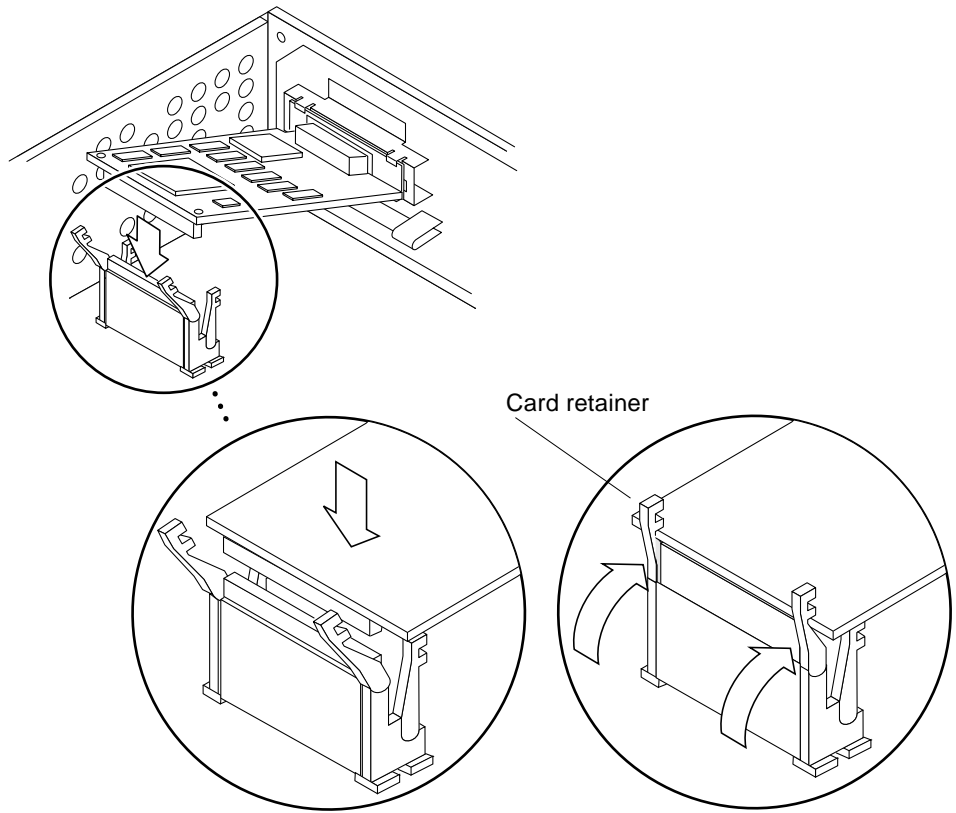
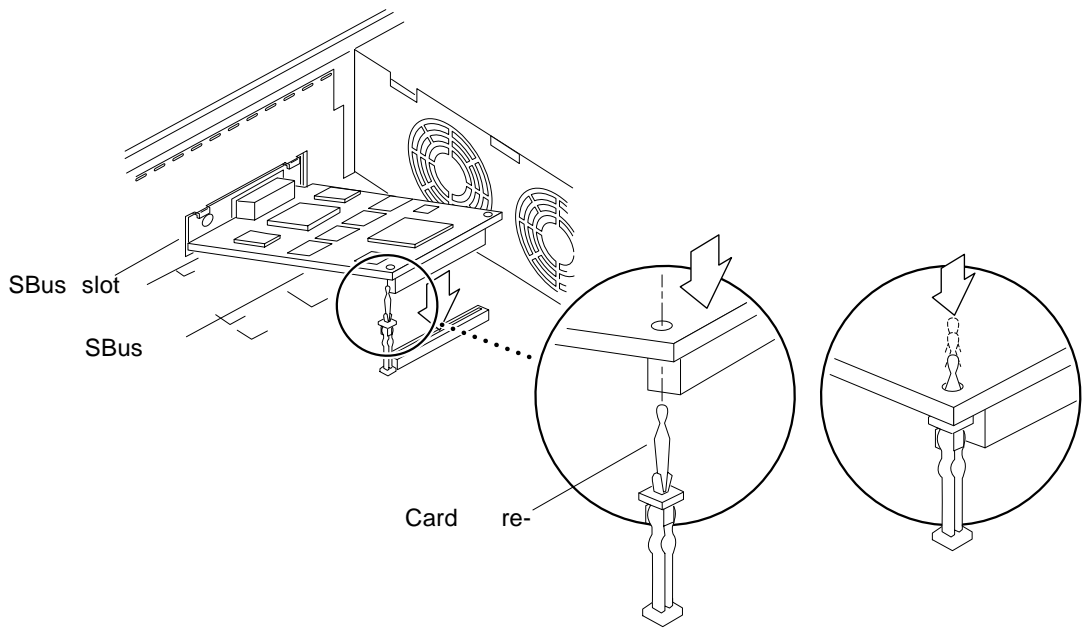

FIGURE 10-15 Lock in the SBus Card Retainers, SBus Slots 0 or 1
FIGURE 10-16 Lock in the SBus Card Retainer, SBus Slot 2
Do not force the card, or you may damage the pins on the card. If the SBus card is located in SBus slot 0 or 1, see FIGURE 10-15. If the SBus card is located in SBus slot 2, see FIGURE 10-16.
- If the SBus card is located in SBus slot 0 or 1, push the rear card retainers forward over the edge of the SBus card. See FIGURE 10-15.
- If the SBus card is located in SBus slot 2, push the card retainer down. See FIGURE 10-16. There is only one card retainer for the SBus slot 2.